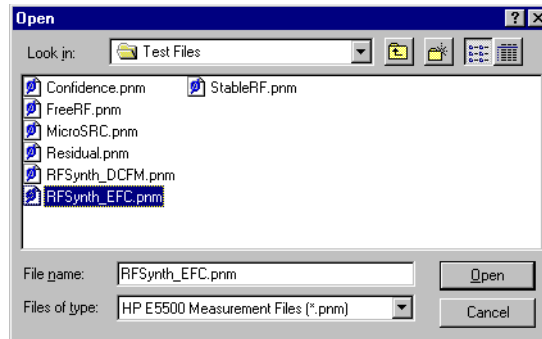

Figure 7-34 Select the Parameters Definition File
- 3 In the **File Name** box, choose “**RFSynth_EFC.pnm**”. See Figure 7-34.